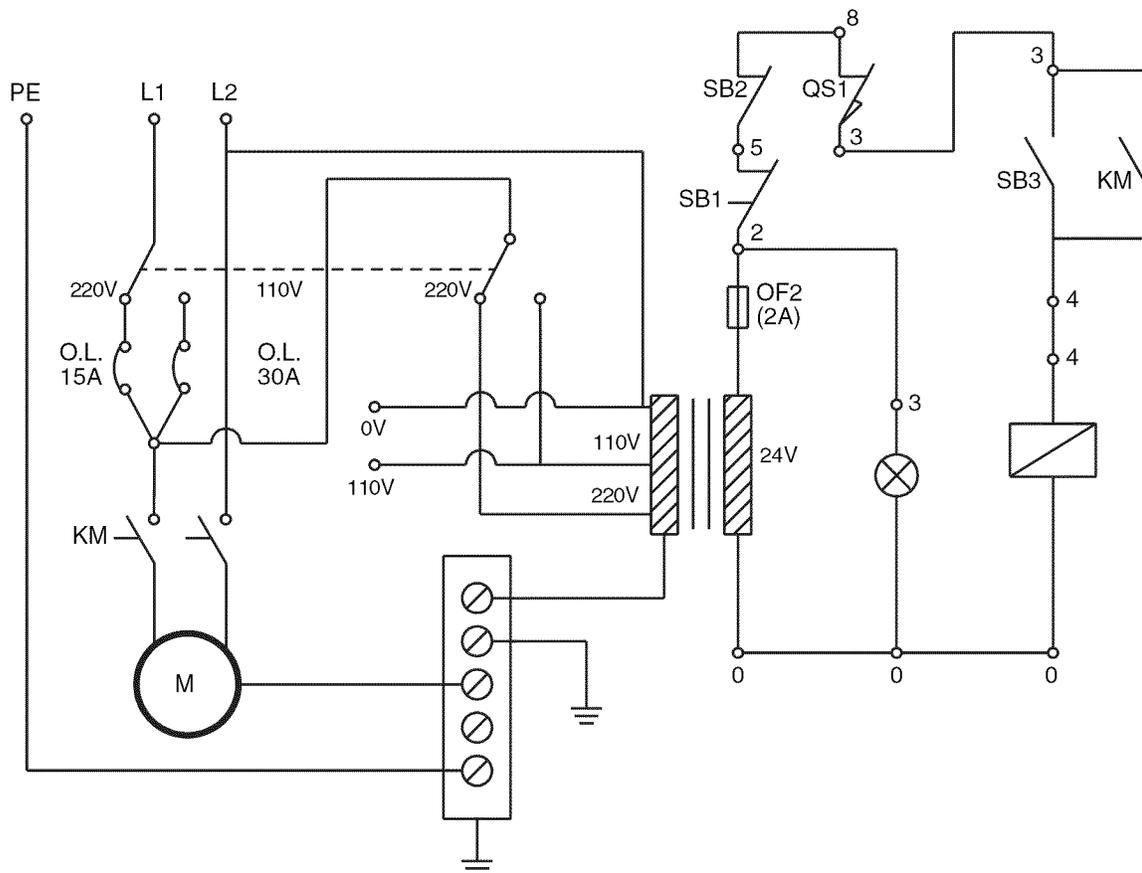

Figure 4 - Wiring Schematic
Refer to Figure 4, 7, 8, 9 and 11.
Refer to Figure 4.
- Loosen transmitting pulley base (Key No. 41) by loosening hex head bolts (Key No. 46). Place V-belts on pulleys for desired speed as shown in speed chart (See Figure 4, page 5).